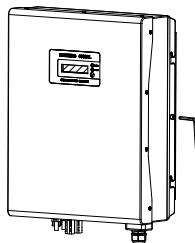

Fig.5 Fix safety-lock screws
Step3: Fix safety-lock screws at left side and right side as illustrated in Fig.5 with the attached socket head wrench.